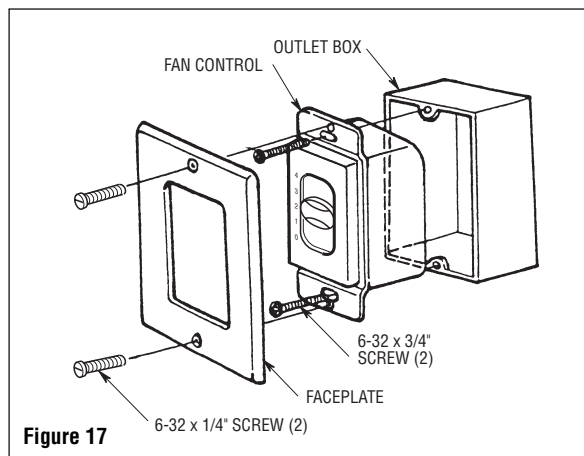

Figure 17
7. Position the faceplate (provided) onto the speed control. Using the two 6-32 x 1/4” screws, screw the faceplate and speed control to the wall outlet box (Figure 17).